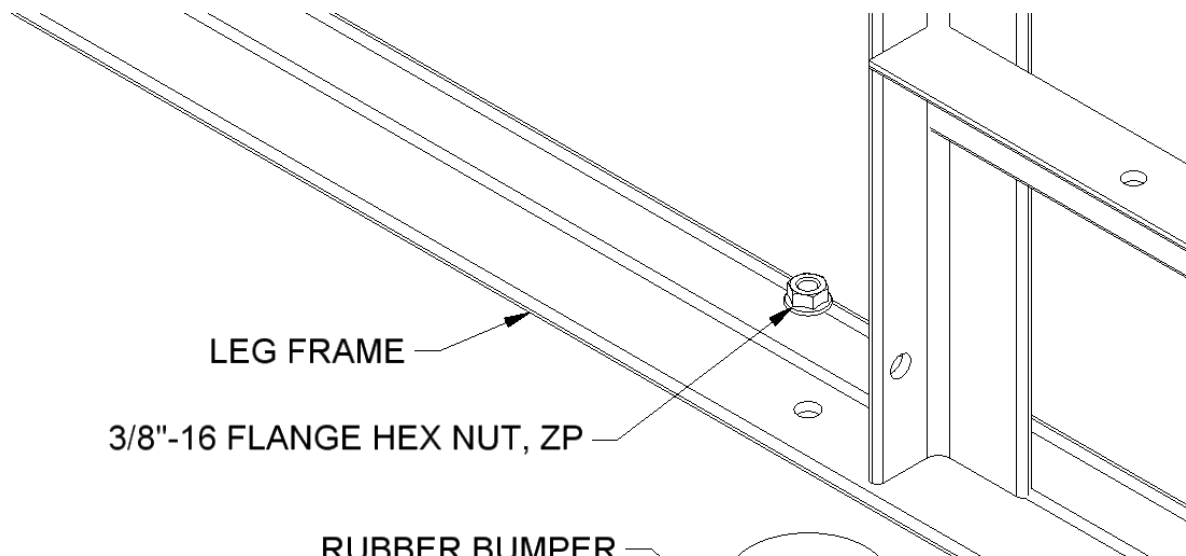

Figure 1
1. Attach five (5) rubber feet (bumpers) on the bottom of each leg as shown in figure 1.